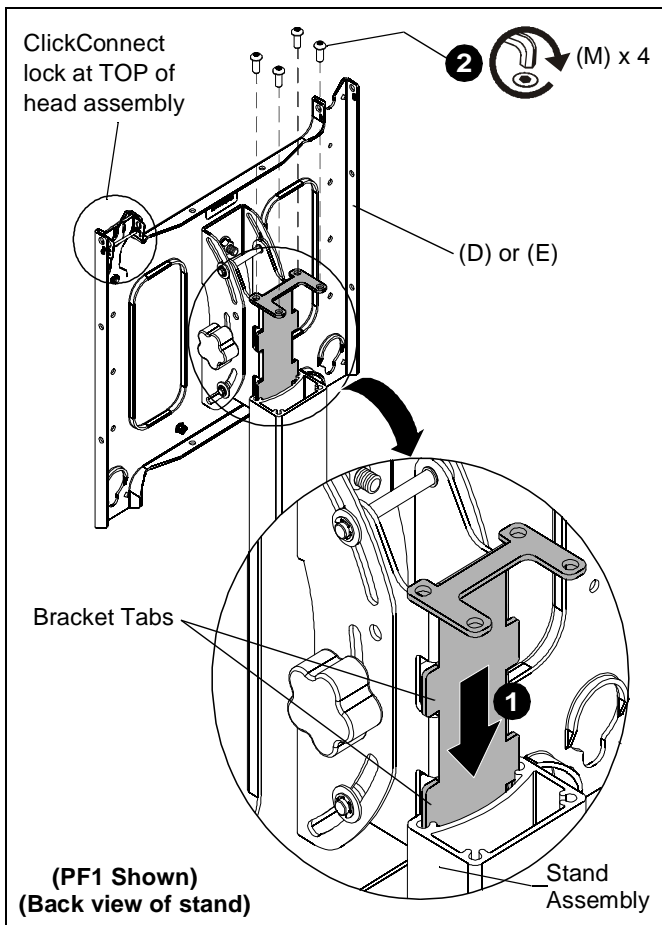

Figure 8
**IMPORTANT !** : When attaching head assembly ensure that the ClickConnect lock is at TOP of head assembly, and bracket tabs slide into the stand assembly. (See Figure 8)
1. Slide head assembly (D) or (E) into the stand assembly. (See Figure 8)
2. Attach head assembly to stand using four 5/16-18 x 3/4" button head cap screws (M). (See Figure 8)
**IMPORTANT !** : When attaching front head assembly ensure that the ClickConnect lock is at TOP of head assembly, and bracket tabs slide into the stand assembly. (See Figure 8)